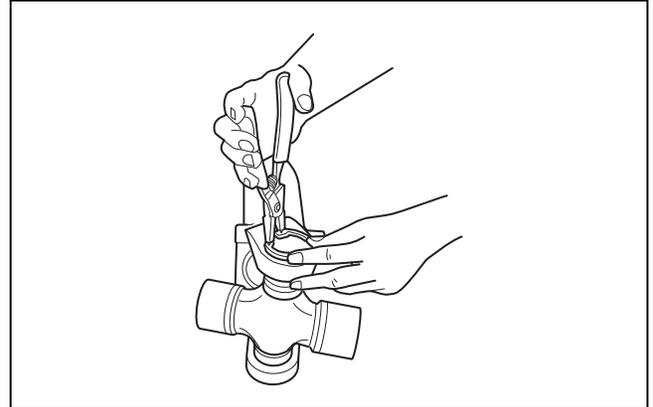

Figure 8.28
7. Use snap ring pliers to install the second snap ring into the snap ring groove. Figure 8.28.